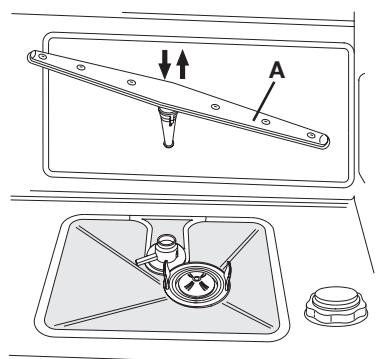

Fig. 6-03
- To remove the **lower** spray arm (see Fig. 6-03), simply lift up, pulling by the central part (see fig. 6-03). Then remount the lower spray arm into its seat and push it down slightly until it click into place (see fig. 6-03). After cleaning, remount the orbital spray arm in its seat and push it down slightly until it clicks into place on the lower spray arm (see fig. 6-03). Then remount the lower spray arm into its seat and push it down slightly until it click into place (see fig. 6-03).